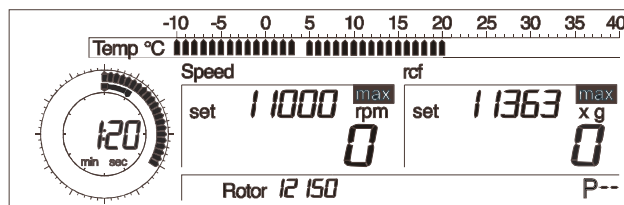

Fig. 5.17: Set temperature below actual temperature
- If the selected temperature (= set temperature) is below the actual temperature, the set temperature will be represented by a flashing bar on the temperature scale (Fig. 5.17).